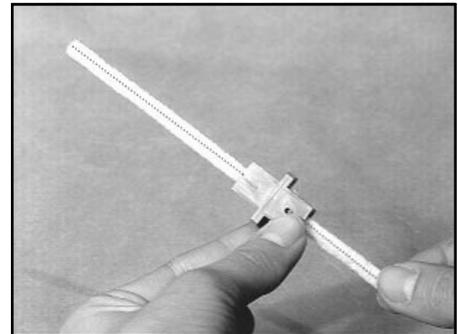

Fig. 13
B. Insert an isopropyl alcohol dampened pipe cleaner into the coupling to remove any foreign particles (Fig. 13). Blow with compressed air.